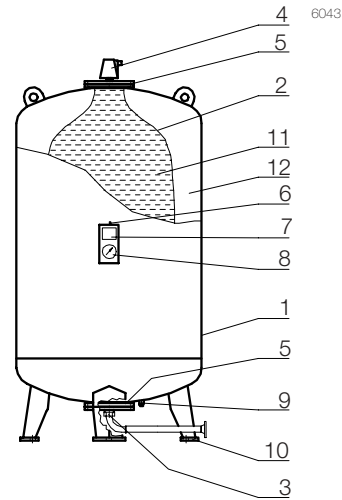

Figure 1
Figure 1 shows the Flexcon M pressure expansion vessel as an upright model. The diaphragm (2) fitted in the vessel (1) is for the absorption and storage of the expansion water.